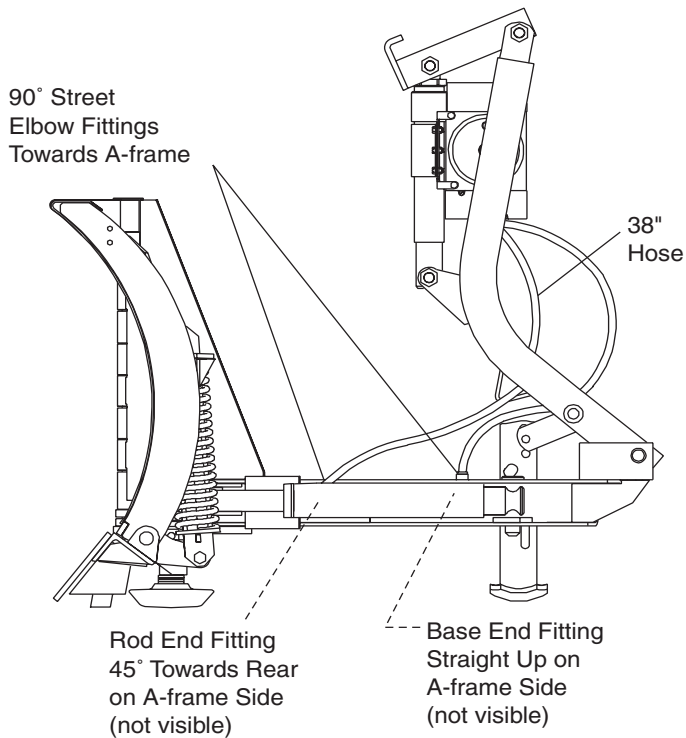

Figure 13
13. Install a 90° street elbow fitting into each port in the angling rams. Position fittings as shown in Figure 13.
14. Attach a 38" hose to the fitting on the rod end of each ram. (See Figure 13.)
15. Route rod end hoses in front of the lift frame to avoid pinched hoses. (See Figures 13 and 14.)